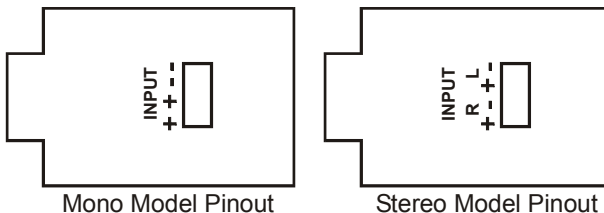

Figure 3: ESD Ceiling Speaker Input Pinout
Figure 3 illustrates the terminal block pinout for mono and stereo models respectively:
4. Connect the speaker wires to the speaker terminals (see Figure 3) from the adjacent ceiling tile opening.